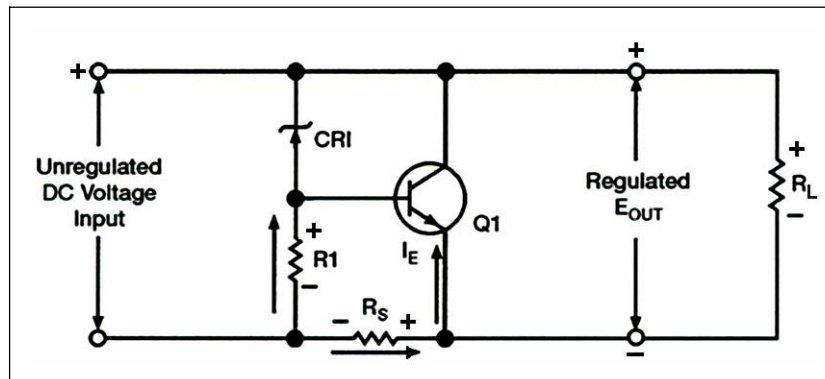
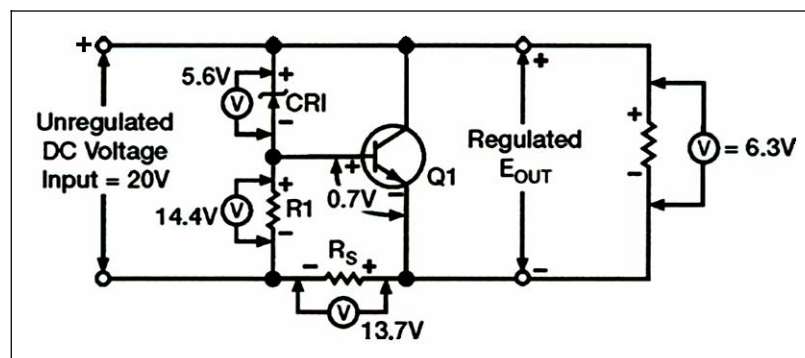
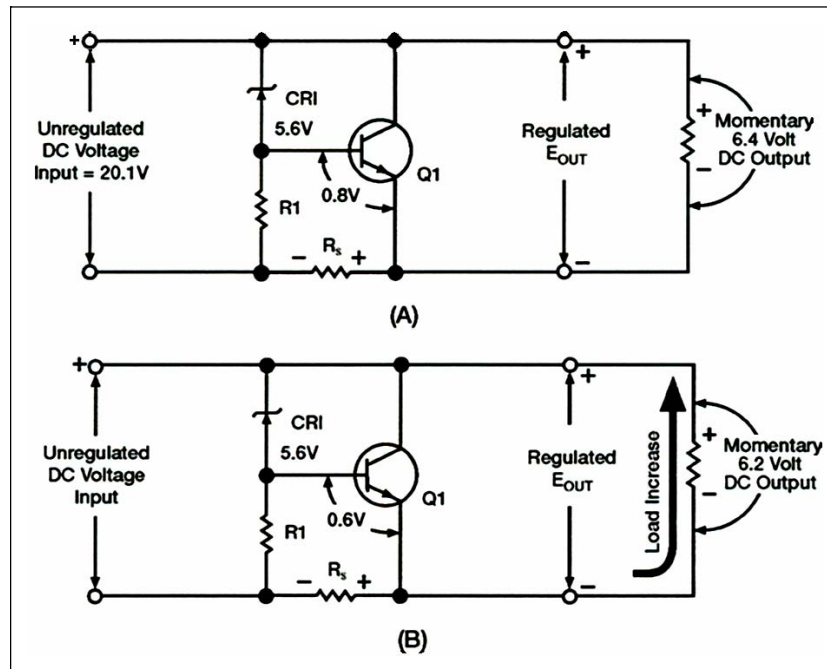

Figure 4-37. Schematic of Shunt Voltage Regulator
Figure 4-38. Shunt Voltage Regulator (With Voltages)
Figure 4-39. Shunt Voltage Regulator (Increased Input Voltage)
4-111. Figure 4-37 is the schematic of a shunt voltage regulator. Notice that Q1 is in parallel with the load. Components of this circuit are identical with those of the series voltage regulator except for the addition of fixed resistor R_s . Notice in this schematic that this resistor is connected in series with the output load resistance. The current limiting resistor (R1) and Zener diode (CR1) provide a constant reference voltage for the base-collector junction of Q1. The voltage drop across R_s and R1 determines the bias of Q1. Remember, the amount of forward bias across a transistor affects its total resistance. In this case, the voltage drop across R_s is the key to the total circuit operation.
4-112. Figure 4-38 is the schematic for a typical shunt-type regulator. Notice that the schematic is identical to the schematic shown in Figure 4-37 except that voltages are shown to help you understand the functions of the various components. In the circuit shown, the voltage drop across the Zener diode (CR1) remains constant at 5.6 volts. This means that with a 20-volt input voltage, the voltage drop across R1 is 14.4 volts. With a base-emitter voltage of 0.7 volts, the output voltage is equal to the sum of the voltages across CR1 and the voltage at the base-emitter junction of Q1. In this example, with an output voltage of 6.3 volts and a 20-volt input voltage, the voltage drop across R_s equals 13.7 volts. Study the schematic to understand fully how these voltages are developed.
4-113. Figure 4-39, view (A) shows the same schematic diagram of the shunt voltage regulator shown in Figure 4-38. The difference is that this view shows an increased input voltage of 20.1 volts. This increases the forward bias on Q1 to 0.8 volts. Remember that the voltage drop across CR1 remains constant at 5.6 volts. Since the output voltage is made up of the Zener voltage and the base-emitter voltage, the output voltage momentarily
4-114. Figure 4-39, view (B) shows the same schematic of the shunt voltage regulator shown in Figure 4-38. The difference is that this view shows a different output voltage. The load current has increased causing a momentary drop in voltage output to 6.2 volts. Remember that the circuit was designed to ensure a constant output voltage of 6.3 volts. Since the output voltage is less than that required, changes occur in the regulator to restore the output to 6.3 volts. Because of the 0.1-volt drop in the output voltage, the forward bias of Q1 is now 0.6 volts. This decrease in the forward bias increases the resistance of the transistor, thereby reducing the current flow through Q1 by the same amount that the load current increased. The current flow through R_s returns to its normal value and restores the output voltage to 6.3 volts.